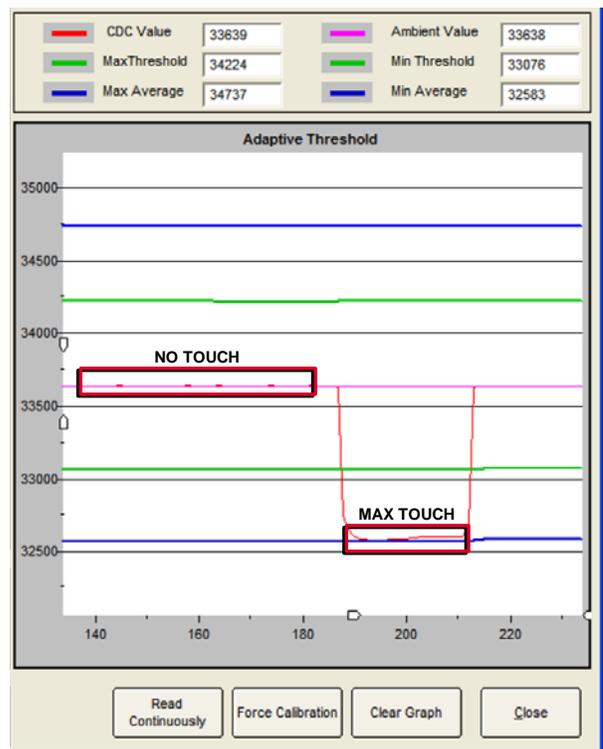

Figure 10. Measuring the Sensor Response
1. Plot the CDC output for each sensor using the evaluation software (see Figure 10).